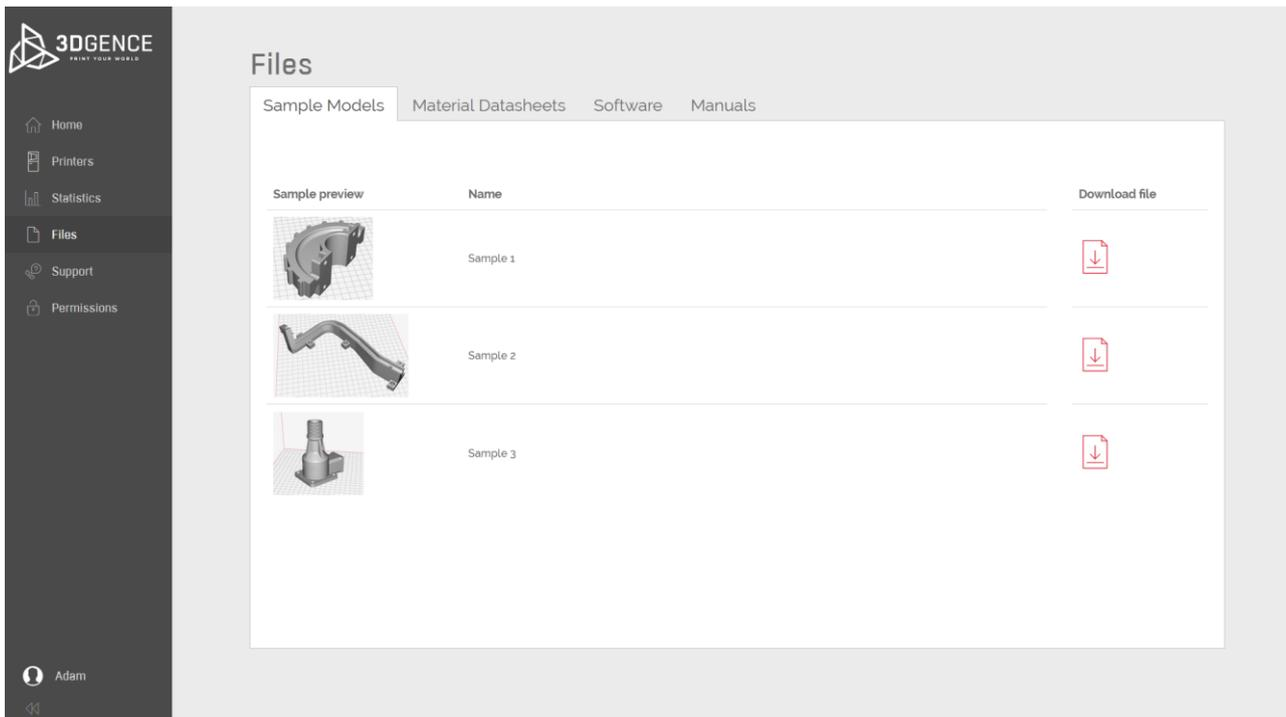

Fig. 13 Files category – sample models
1. Example models for printing (Fig. 13).